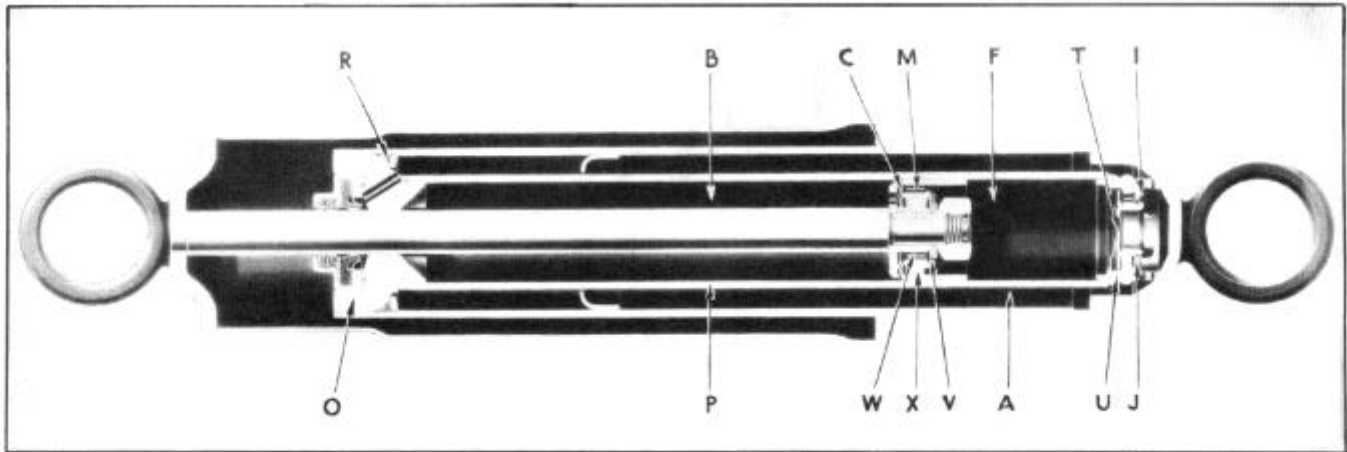

Figure 30--Delco Shock Absorber - Sectional View
#### OPERATION OF THE SHOCK ABSORBER 5COMPRESSION STROKE - Figure 30
The action of this valve allows the fluid to pass into the lower chamber (F), Figure 30. Since the piston is moving out of the inner chamber, the added displacement is compensated by a return flow of fluid drawn into the lower chamber from the surrounding reservoir (A) through compression valve (U). The valve plate (T) is lifted off its seat in this operation
6. Remove the rubber gasket at the top of the reservoir tube (A), Figure 30. Discard this gasket and always use a new one when rebuilding.
7. Open compression valve (U), Figure 30, by pressing it inward and drain fluid from inner chamber (F).
8. Remove compression valve assembly (U) from bottom of pressure tube (P). This valve is a light press fit in tube and can be easily taken out by placing a punch or screw driver against the ITV" groove machined on the outside of the valve body and tapping lightly with a hammer.